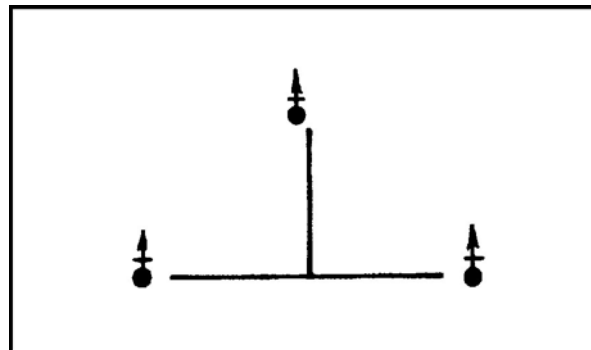

Figure 4. Triangle Formation
- c. The triangle formation (Figure 4) is used with the 4.2-inch and 120-mm mortar sections. The base mortar is about 20 meters forward or to the rear of the other two mortars.